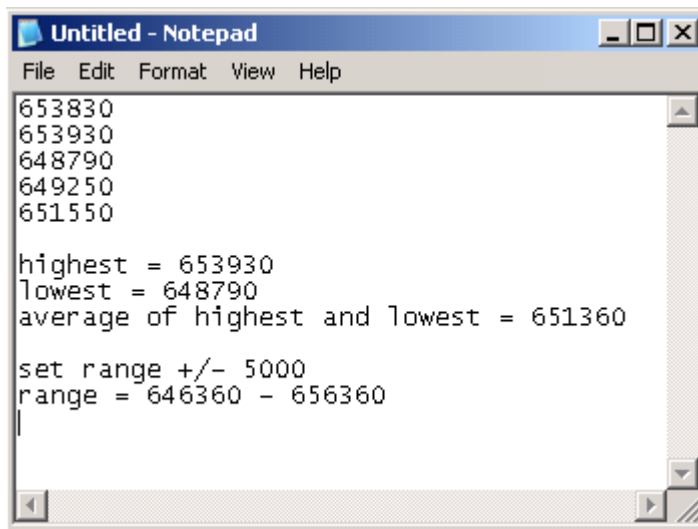

Figure 90 Record the average focal value in Notepad.
9. Repeat steps 4 to 8 for the top right, bottom left, bottom right, and center of the slide. The range of these values should not exceed 5000 units. Calculate the average value of the highest and lowest spots and record this value in Notepad (see Figure 90).